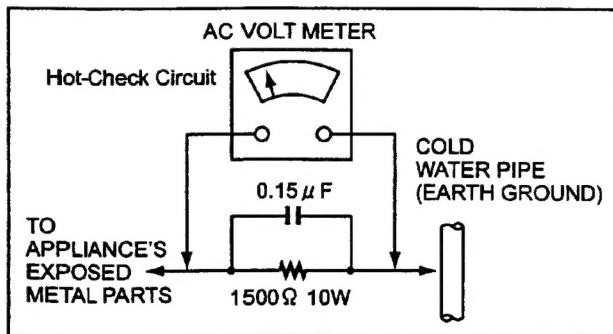

Figure1
LEAKAGE CURRENT HOT CHECK (See Figure 1)
2. Connect a 1.5KΩ, 10W resistor, in parallel with a 0.15 μF capacitor, between each exposed metallic part on the set and a good earth ground such as a water pipe, as shown in Figure1.